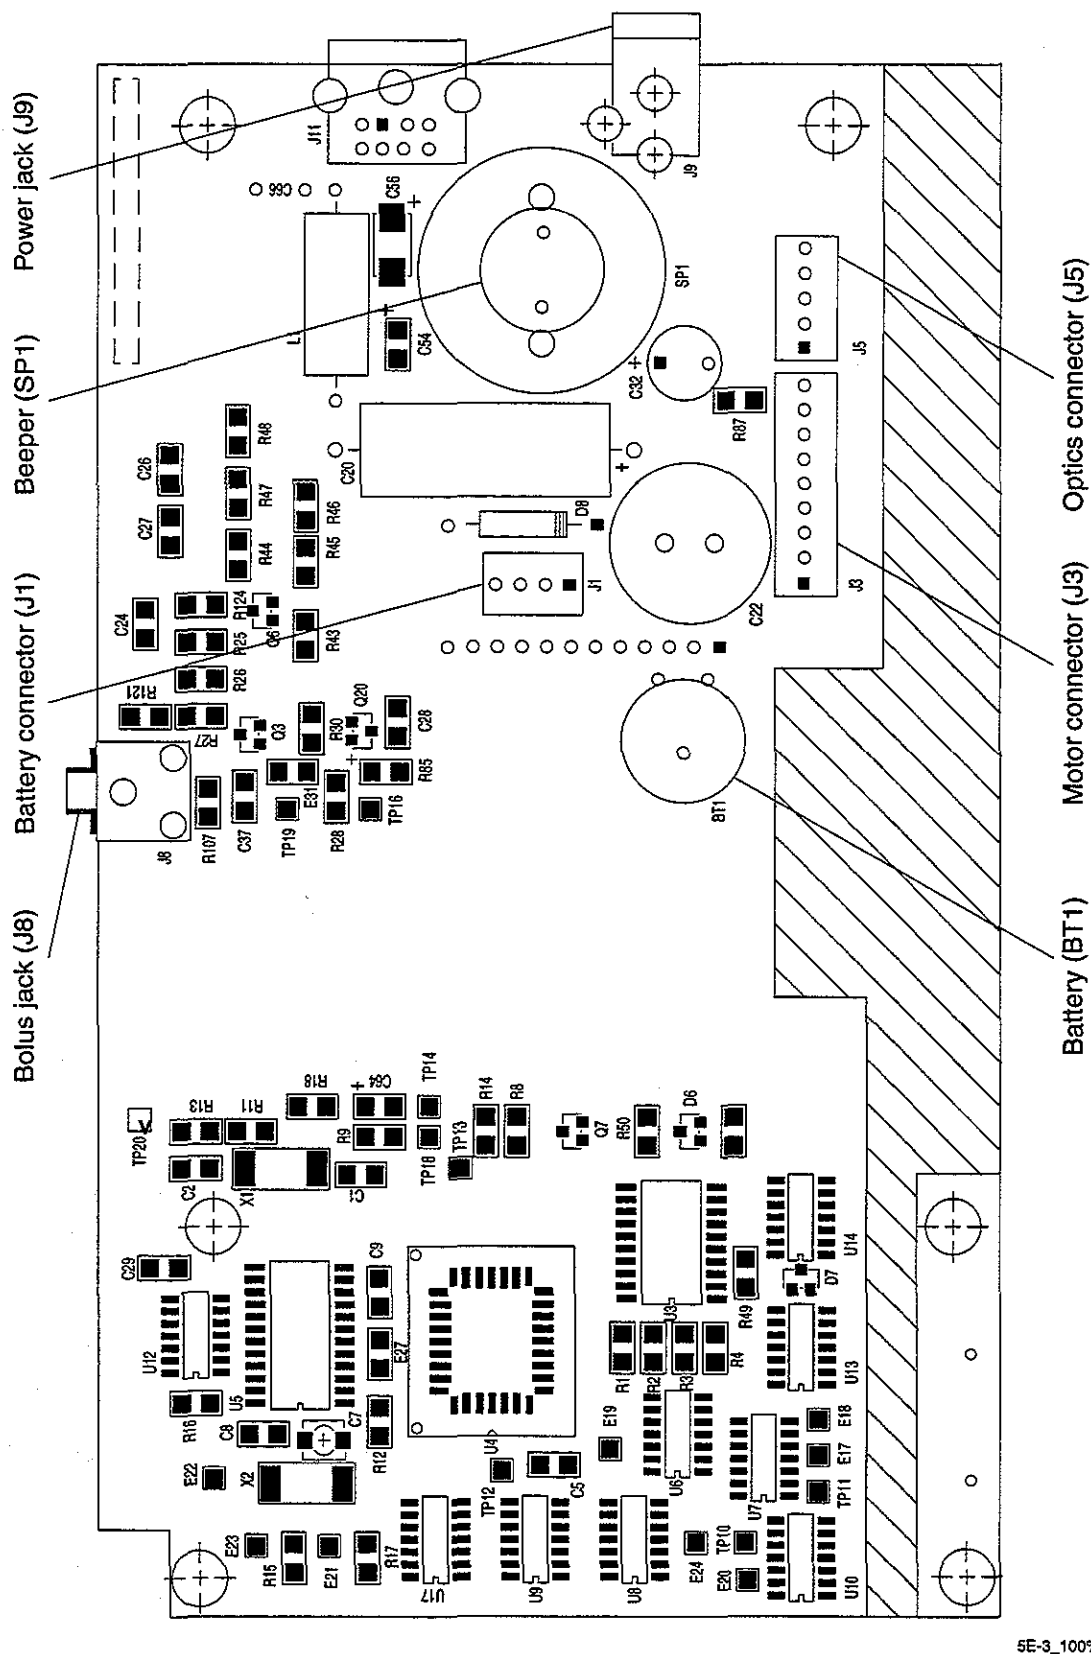

Figure 7-11. PCB Back Detail
3. Place replacement beeper on PCB and solder in place (refer to *Figure 7-11. PCB Back Detail*).
2. Place replacement bolus jack on PCB and solder leads (refer to *Figure 7-11. PCB Back Detail*).
2. Place the replacement 12-VDC power jack on the PCB and solder leads (refer to *Figure 7-11. PCB Back Detail*).
2. Place the replacement lithium battery on the PCB and solder leads (refer to *Figure 7-11. PCB Back Detail*).